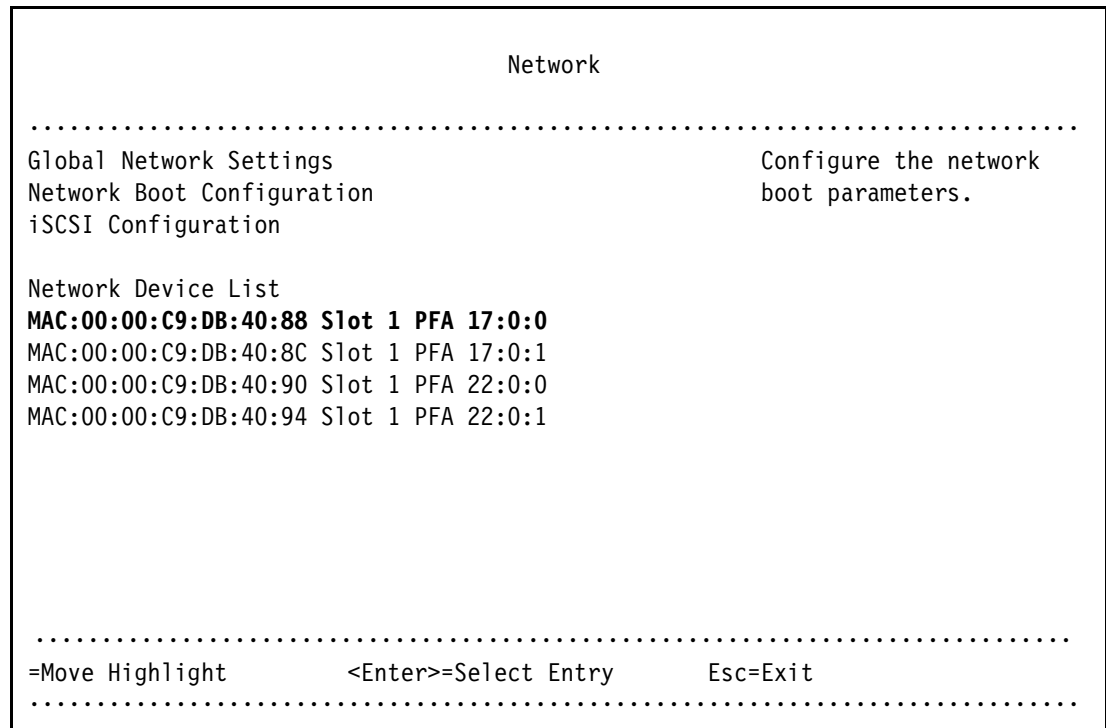

Figure 7-6 Network Device List
6. Highlight the first MAC address shown under **Network Device List** and press Enter as shown in Figure 7-6.